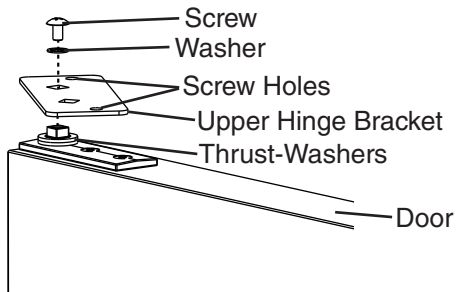

Fig. 9
- 9) Make sure the thrust-washers are in place on the spring cartridge, then install the upper hinge bracket onto the spring cartridge. See Fig. 9. The upper hinge bracket should be canted out towards the center as shown with the screw holes towards the back of the appliance.